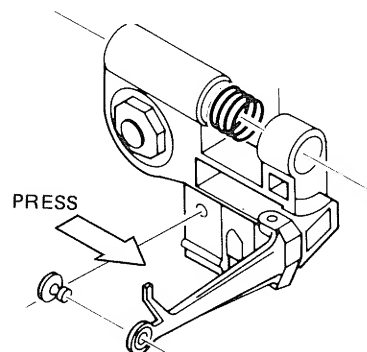

FIGURE 10
- c. To install load button, press the button into the arm, from the head side, and it will snap in place. Reference Figure 10.